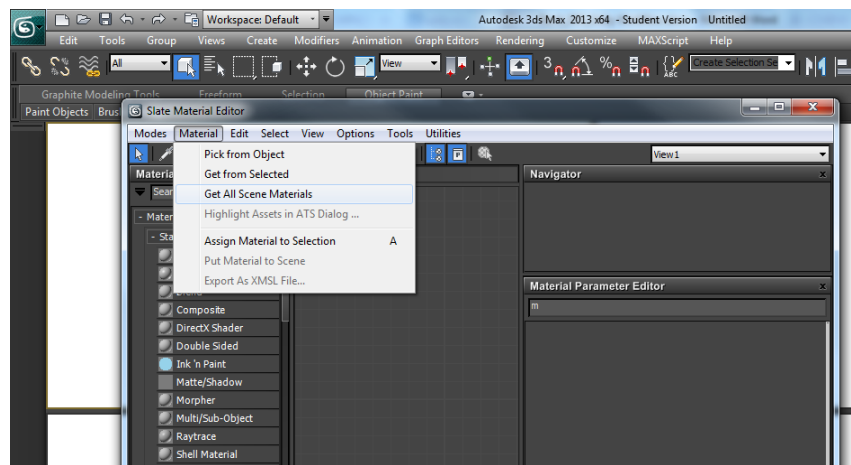

FIGURE 12: QUICK GUIDELINES ON HOW TO SEE ALL MATERIALS IN THE MODEL
3. [Optional] To access material list in 3DS Max, press ‘m’ on the keyboard. In the slate material editor, click material → get all scene materials. Tree of material boxes will be viewable in the view tab (Figure 12). Find the bitmap nodes, and you can see if they have textures loaded in the bitmap.